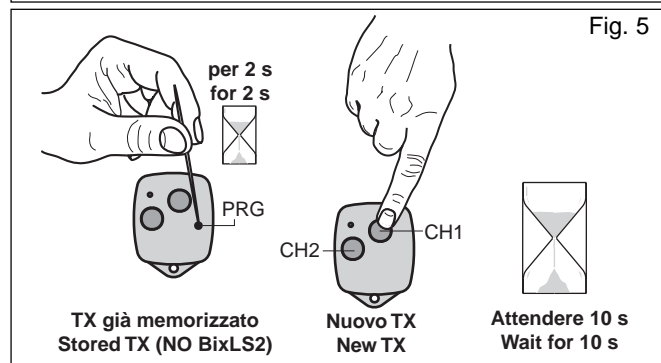

Fig. 5
4. DUPLICAZIONE NUOVI TRASMETTITORI (Fig. 5)
4. DUPLICATION OF NEW TRANSMITTERS (Fig. 5)